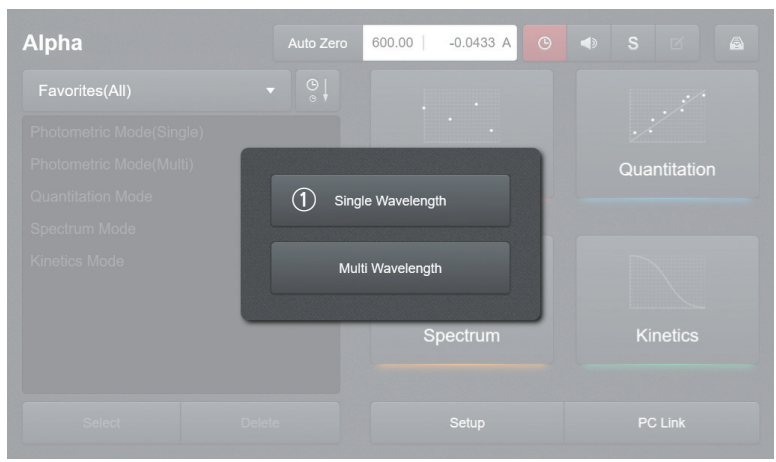

Fig. 2.11
1. [Fig. 2.11] Select ① **Single Wavelength** Mode on the main page.